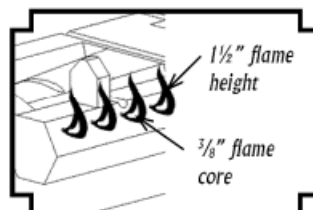

Figure 19-1 - Showing proper flame characteristics.
- The flames of the Grill burners should be visually checked and compared to fig. 19-1. Flames should be blue and stable with no yellow tips, excessive noise, or lifting.